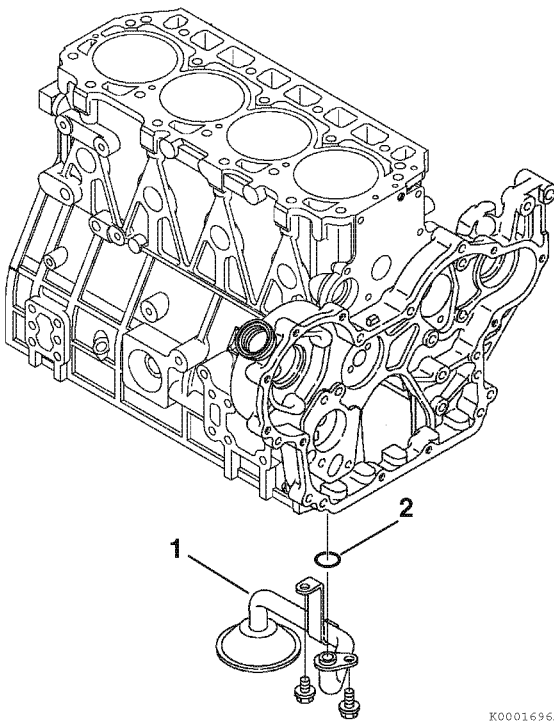

Figure 6-94
3. Remove the oil pickup tube (1, **Figure 6-94**) and O-ring (2, **Figure 6-94**).